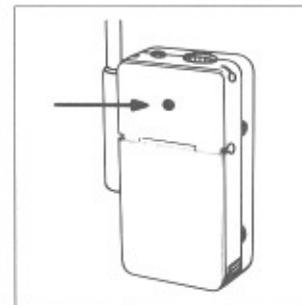

Fig. 4
Since the sensitivity reduction of the hearing aid is dependent upon the input impedance of the audio input a hearing aid expert must carry out an adjustment. This adjustment is carried out with a potentiometer which is accessible via an opening on the back of the unit (Fig. 4).
5. Speak into the transmitter microphone. At the same time adjust the potentiometer of the EK 1013-6 (Fig. 4) so that the sensitivity of the microphone built into the hearing aid is significantly reduced.